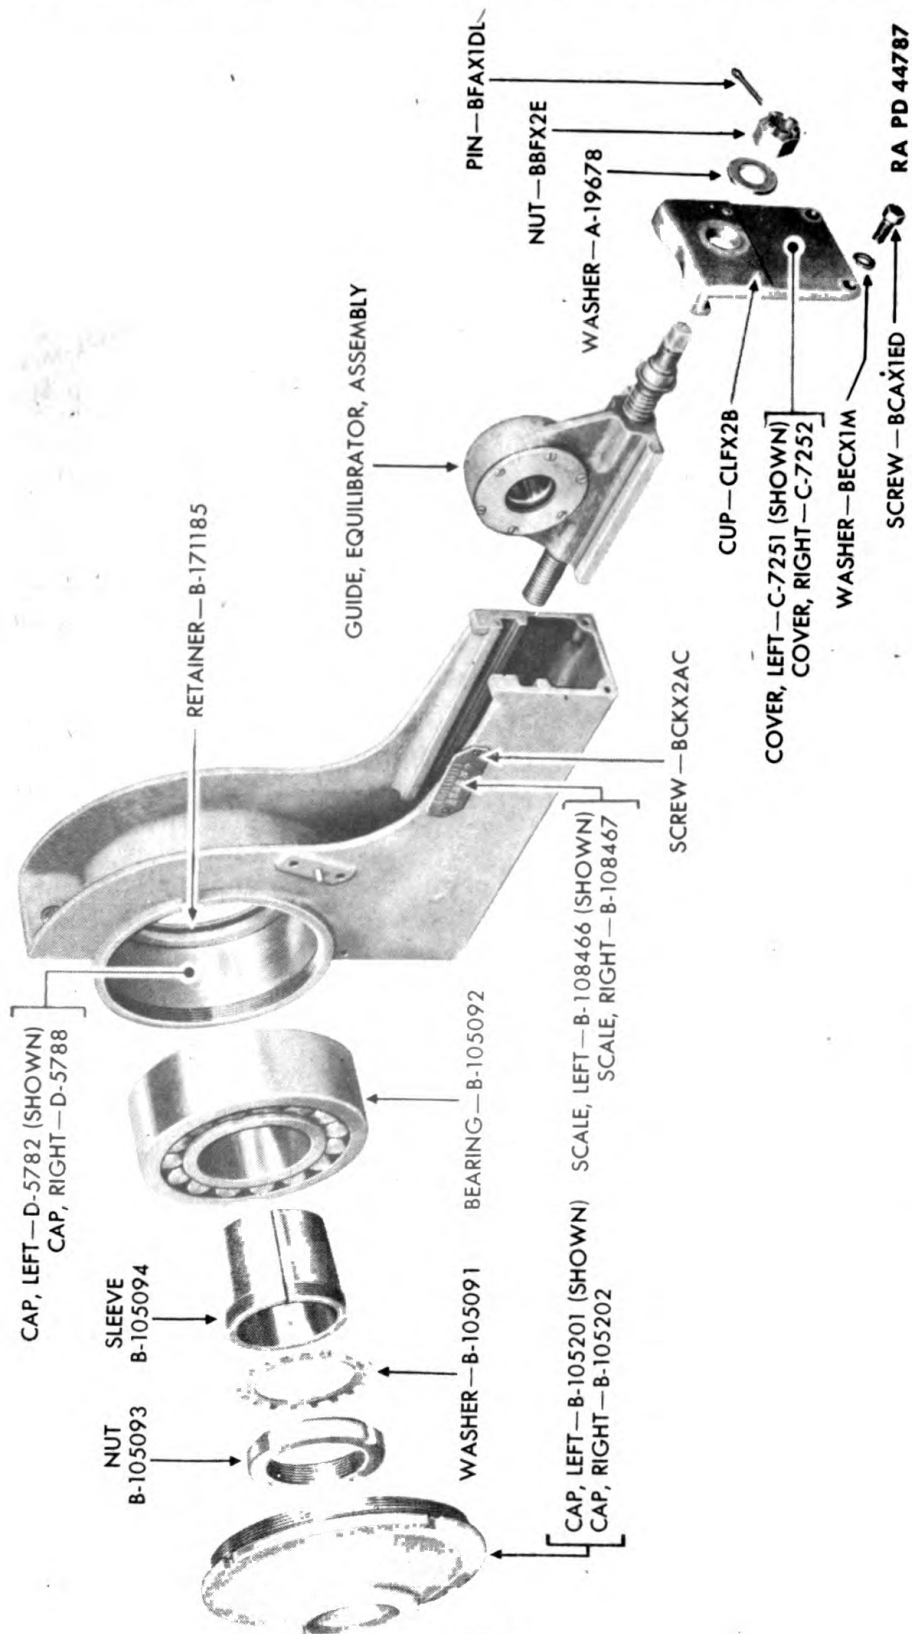

Figure 82—Trunnion Bearing Cap—Exploded View
a. The trunnion bearing cap groups, right and left, each consist of a trunnion bearing cap assembly and trunnion bearing group. The trunnion bearing cap assembly is a large steel casting to which the trunnion bearing group, the equilibrator guide mechanism, and equilibrator temperature scale are assembled (figs. 82 and 83).